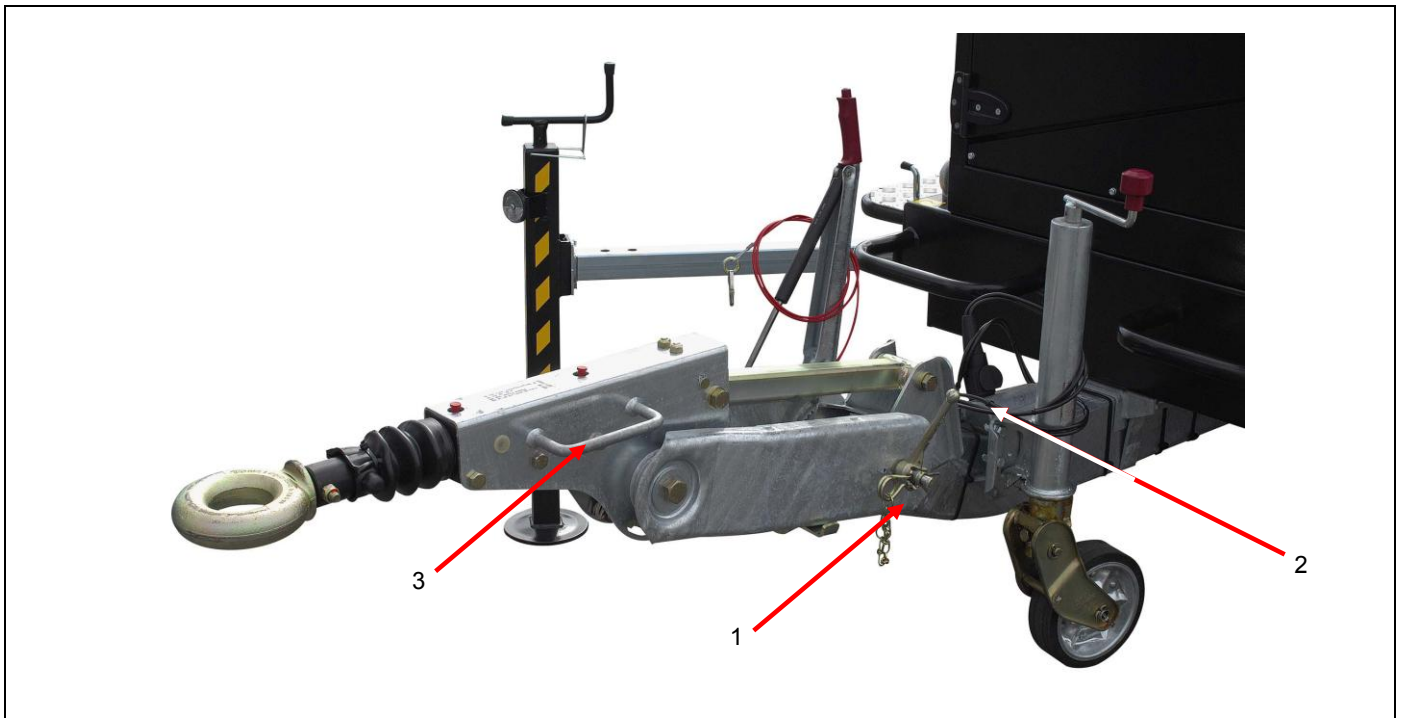

Figure 3.1 – Adjusting the towbar
- ✓ Remove the safety pin (ref. 1, figure 3.1).
- ✓ Undo the nut (ref. 2, figure 3.1).
- ✓ Push the handle (ref. 3, figure 3.1) to obtain the desired height.
- ❹ Once this has been done, raise the jockey wheel until it is lifted off the ground slightly and is not bearing any load. Then depress the pedal with your foot and continue to turn the handle until the jockey wheel is completely retracted (see photos).